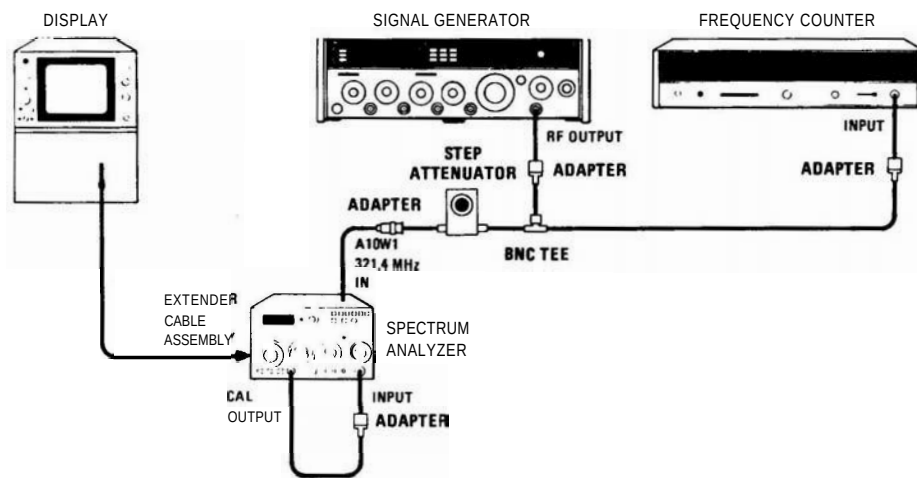

FIGURE 5-8. 3-dB BANDWIDTH ADJUSTMENT TEST SETUP
2. Connect equipment as shown in Figure 5-8 except for signal input to A10W1. Connect CAL OUTPUT to spectrum analyzer INPUT 50Ω.
9. Connect signal generator through the BNC Tee connector to the step attenuator and the frequency counter as shown in Figure 5-8. Set the signal generator to approximately 0 dBm and the step attenuator to 30 dB.